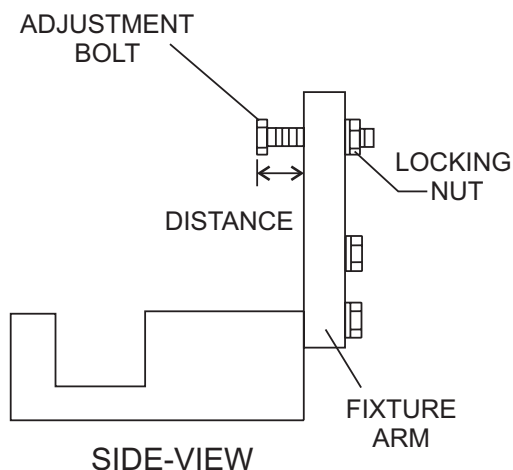

Figure 51. Trowel Arm Adjustment Tool Side View
Figure 51 illustrates the trowel arm adjustment tool with a trowel arm inserted. As each trowel arm is locked into the fixture, the arm bolt is adjusted to where it contacts a stop on the fixture. This will consistently adjust all of the trowel arms, keeping the finisher as flat and evenly pitched as possible.
5. Adjust the bolt distance shown in Figure 51 to match one of the arms. The other arms will be adjusted to match this distance.